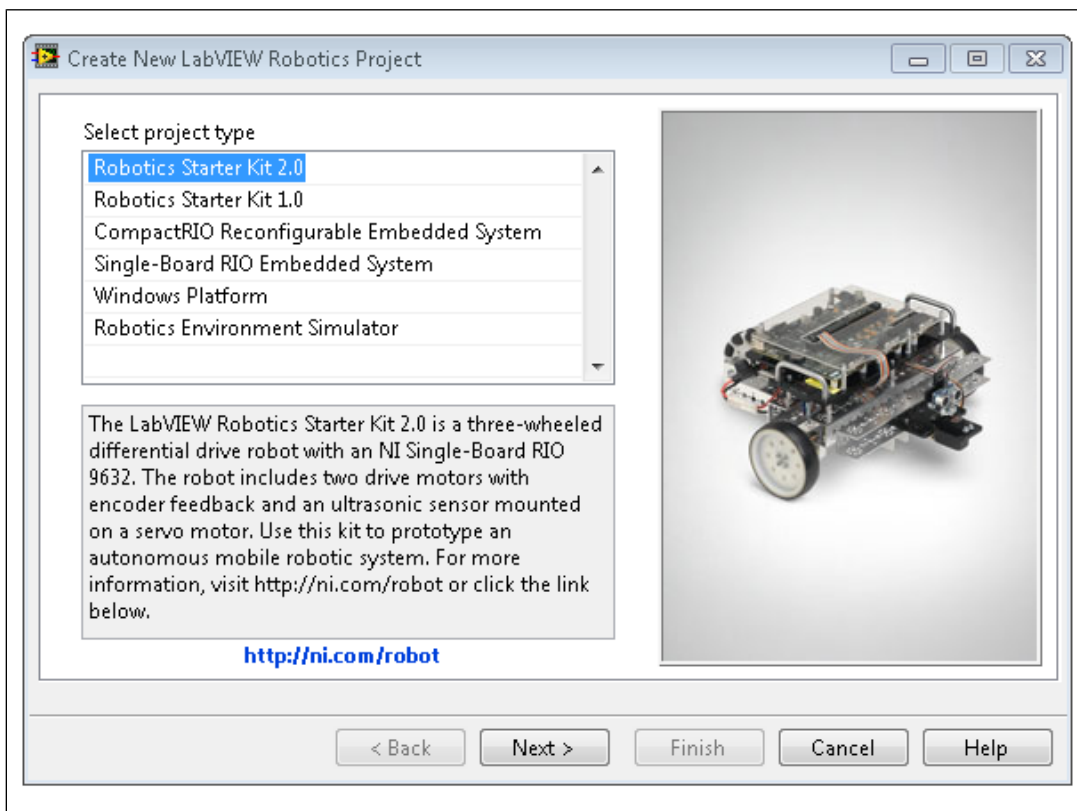

Figure 3. Selecting a Project Type for Your Application
2. On the **Select project type** page, select the type of project that corresponds to your system from the **Select project type** list, as shown in Figure 3. For this exercise, select **Robotics Starter Kit 2.0**.